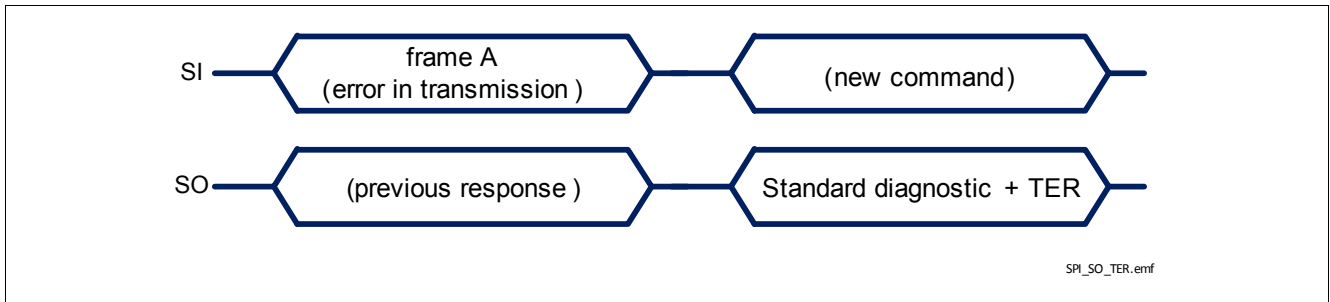

Figure 32 TLE75602-EMD response after a error in transmission
- in case an error in transmission happened during the previous frame (for instance, the clock pulses were not multiple of 8 with a minimum of 16 bits), shown in Figure 32